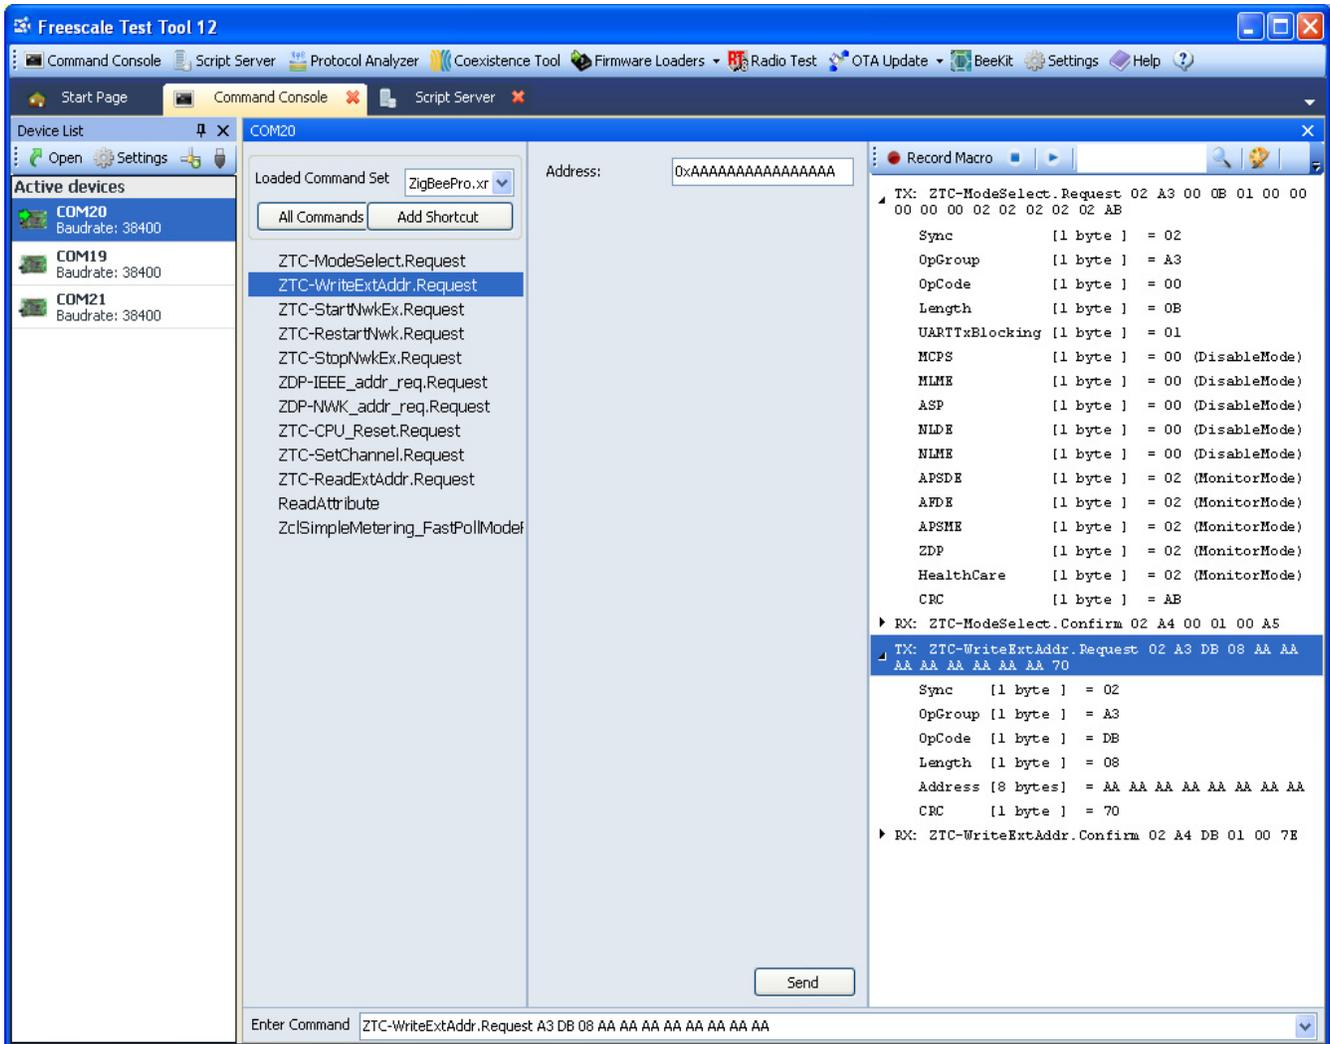

Figure 6-4. ZTC-WriteExtAddr.Request Command (Send IEEE Address)
7. Send the ZTC-WriteExtAddr.Request command which sends the IEEE address of the ESI as shown in Figure 6-4.